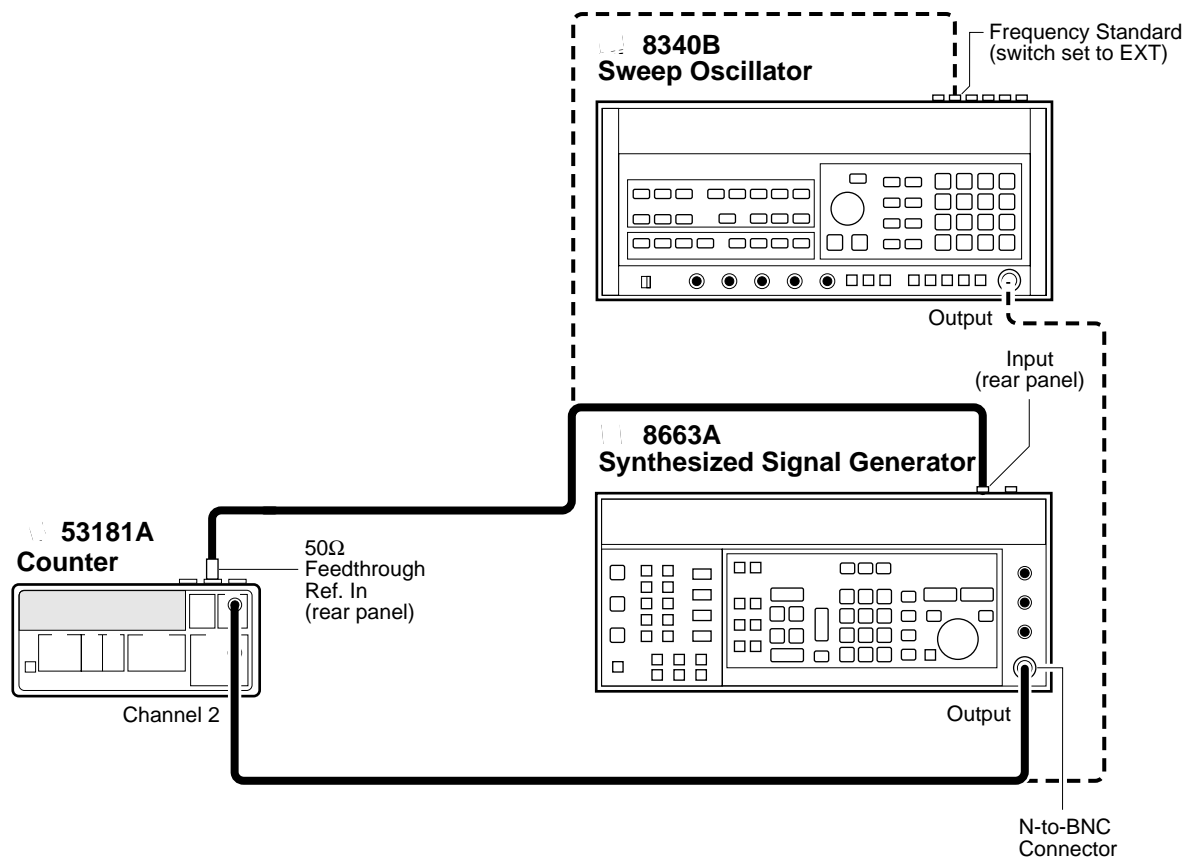

Figure 1-14. Option 015/030/050 Channel 2 Frequency Test
- 1 Set the Agilent 8663B Synthesized Signal Generator to output a 500 MHz, -60 dBm sine wave and connect the signal to Channel 2 of the Counter as shown in Figure 1-14.
- 1 Set the Agilent 8663B Synthesized Signal Generator to output a 500 MHz, -60 dBm sine wave, and connect the signal to Channel 3 of the Counter as shown in Figure 1-14.**
- 1 **Disconnect the Agilent 8663A Synthesized Signal Generator from the Counter (see Figure 1-14), and connect the Agilent 8340B Sweep Oscillator to Channel 3 of the Counter.**